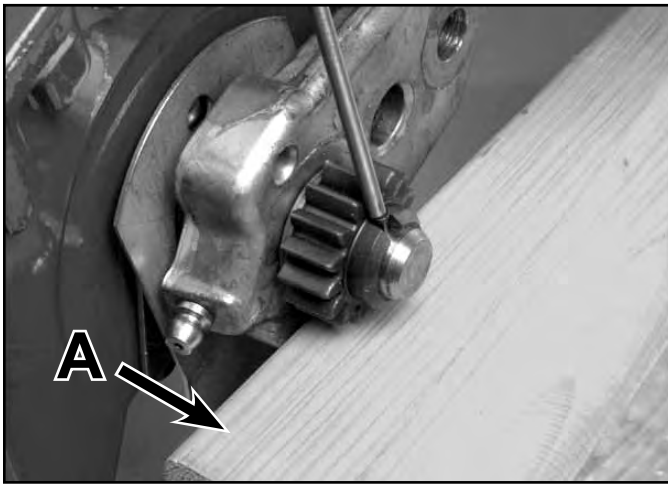

Fig 007
- Place a block of wood under the wheel pinion for support and drive the roll pin out of the axle (Fig. 007). Repeat the process on the other side.